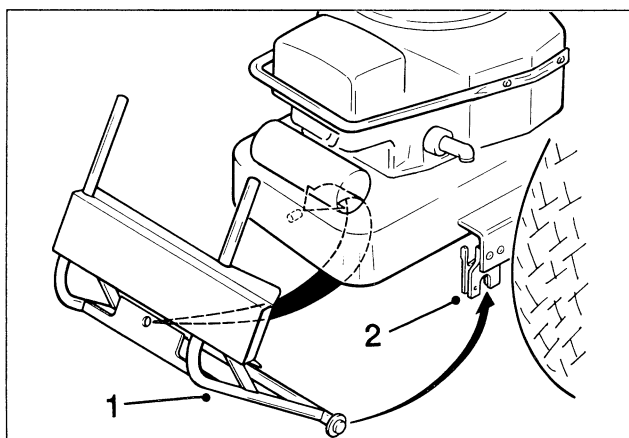

Figure 11
2. Find the pilot pin on the back end of the rider (in the center on the inside of the rider frame) and slide the hole in the center of the quick-attach bracket onto the pin (Fig 11).
- Pull back on the quick-attach bracket until the bottom ends slide into the notches on the side of the rider frame (Fig.11).